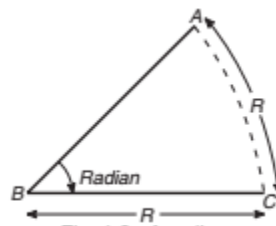

Fig. 1.3. A radian.
2. Angular Measures. An angle may be defined as the difference in directions of two intersecting lines, or it is the inclination of two straight lines. The unit of a plan angle is 'radian'. Radian is defined as the measure of the angle between two radius of a circle which contain an arc equal to the radius of the circle [Fig. 1.3].